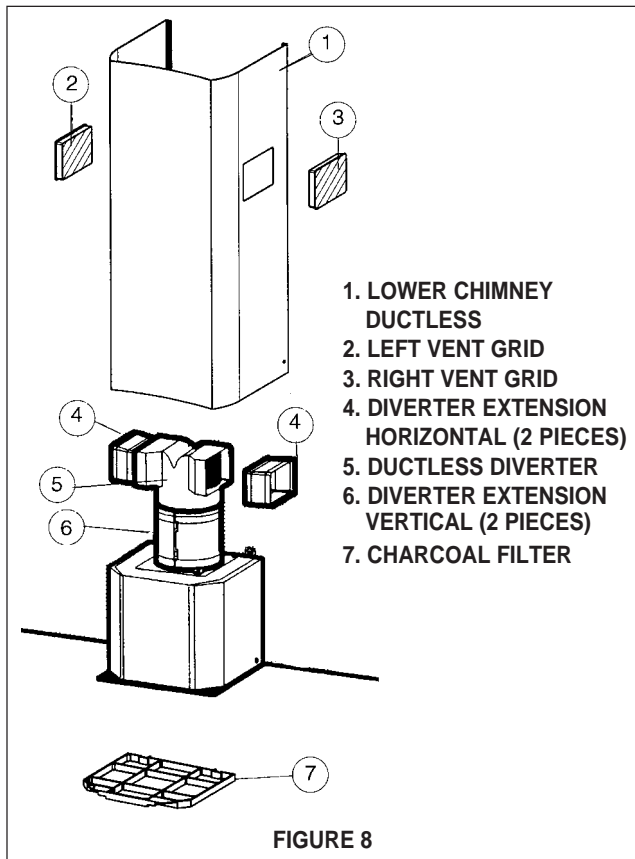

FIGURE 8
Ductless installations require a **Ductless Conversion Kit** whose components are pictured in **FIGURE 8**. Do not use the **DAMPER (H in FIGURE 1)** for ductless installations. The **LOWER CHIMNEY COVER (B in FIGURE 1)** should be discarded and replaced by a new one with holes (**1**).
2. As indicated in **FIGURE 8**, snap the two **DIVERTER EXTENSION VERTICAL** pieces (**6**) together and fit over the duct outlet. Fit the **DUCTLESS DIVERTER (5)** over the **DIVERTER EXTENSION VERTICAL (6)**. Fit the 2 **DIVERTER EXTENSION HORIZONTAL** pieces (**4**) on either side of the **DUCTLESS DIVERTER**.